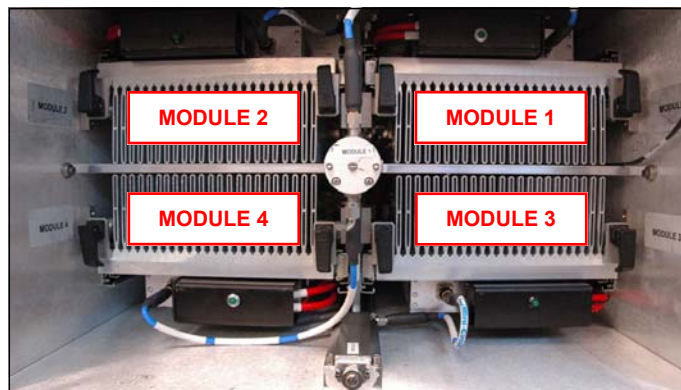

Figure 4-14: RF Module Locations
7. Select appropriate module to be ejected and press the **Enter** key. Refer to **Figure 4-14** for the location of each RF module in the chassis.